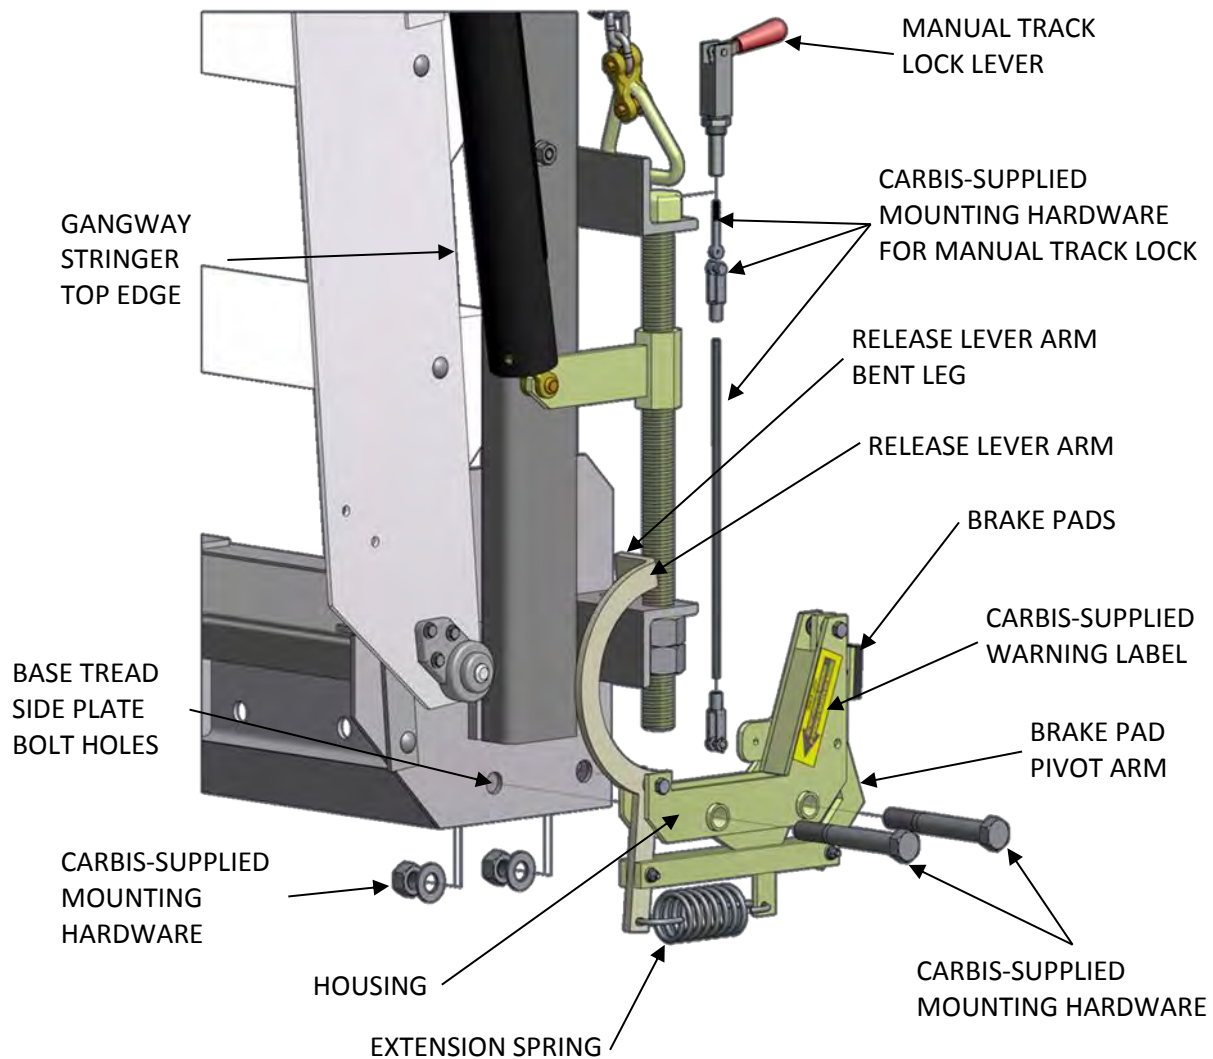

FIGURE 7-1
See **FIGURE 7-1** below.
- ii) Using **FIGURE 7-1** below as a guide, install the replacement/new TCG-S910.1 Track Lock Mechanism per the following steps:
- (1) Make certain the gangway body is locked in the upright stored position.
- (2) Manually pivot the curved release lever arm sufficient so that it will engage the top edge of the stringer on the stored gangway. If the lever arm is too tight to manually hold, temporarily tie the top bend of the arm to the pivot bolt of the brake pad using string or tape that is sufficiently strong to hold the arm in place.
- (3) Position the Track Lock Assembly so that the lever arm bent leg passes over the top edge of the stored gangway stringer as the bolt sleeves are aligned with the bolt holes on the base tread side plate.
- (4) Using the Carbis-supplied hardware, bolt the assembly to the base tread side plate.
- (5) If the release lever arm was tied back, release the tie so that the bent leg of the release lever arm engages the top edge of the stringer.
- (6) With the gangway body in the raised stored position, check that the brake pad is free of the roller track and that the gangway will freely roll when manually pushed in either direction.
- (7) Check the brake pad function by lowering the gangway body from the stored position sufficient to completely disengage the release lever arm from the gangway stringer. At that point, the brake pad should be maximally engaged with the roller track to prevent the gangway from tracking. Apply sufficient push/pull pressure on the gangway to verify that the gangway remains in position without rolling in either direction.
- (8) Raise and lower the gangway to and from the stored position several times to confirm the consistency of the TCG-S910.1 Track Lock Mechanism function.
- (9) Install the manual track lock lever and Carbis-supplied mounting hardware as shown in **FIGURE 7-1** below.
- (10) Verify that the manual track lock brake engages with the track sufficient to firmly hold the gangway in place.
- (1)  DO NOT OPERATE GANGWAY IF SPRING IS BROKEN OR MISSING. Apply this label (with the black arrow) on the mechanism as shown in **FIGURE 7-1** below.
- (2)  THIS UNIT IS EQUIPPED WITH AN AUTOMATIC BRAKE TO PREVENT THE GANGWAY FROM TRACKING WHILE DEPLOYED. Apply this label to the lower portion of the left-hand upright of the gangway base tread.
- (3) **NOTICE** WITH THE GANGWAY LOCKED IN THE UPRIGHT STORED POSITION, PUSH THE MANUAL TRACK LOCK LEVER DOWN TO ENGAGE THE BRAKE TO PREVENT THE GANGWAY FROM FREE-ROLLING ALONG THE TRACK. Apply this label to the upper portion of the left-hand upright of the gangway base tread near the manual track lock lever.